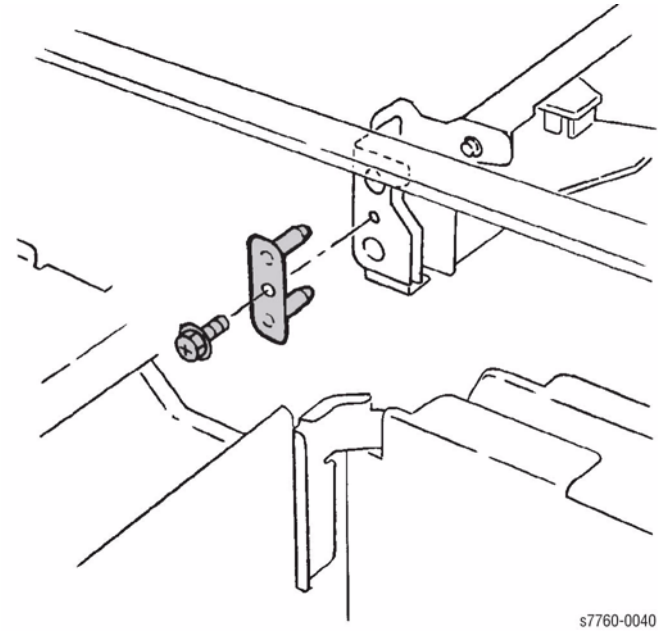

Figure 1 Removing Stud Bracket
3. Remove 1 screw and the Stud Bracket (Figure 1).